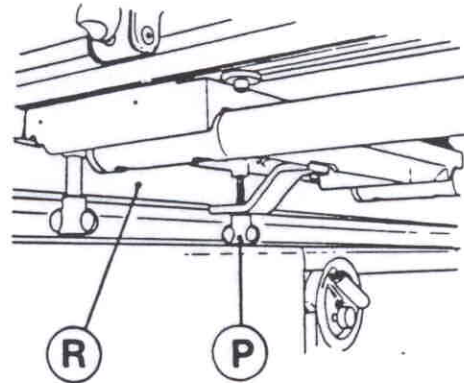

Fig. 8
Fit the squaring table on rule (R) and lock it in position with knob (P fig.8)
Unscrew screw (E fig.8), take off washer (R) and flange (F).